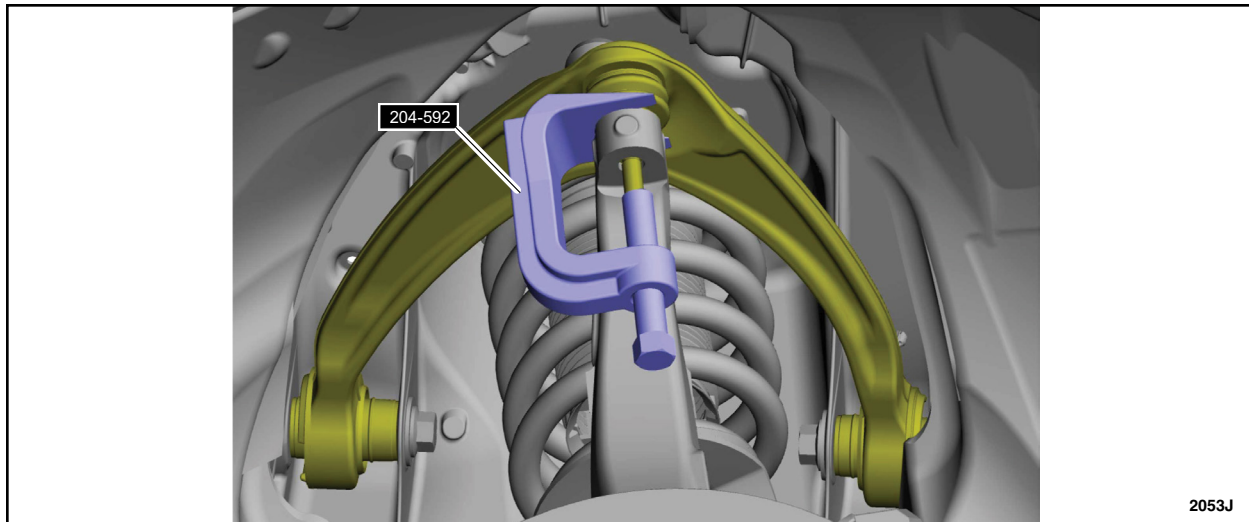

FIGURE 10
15. Separate the front upper arm from the wheel Knuckle. See Figure 10.